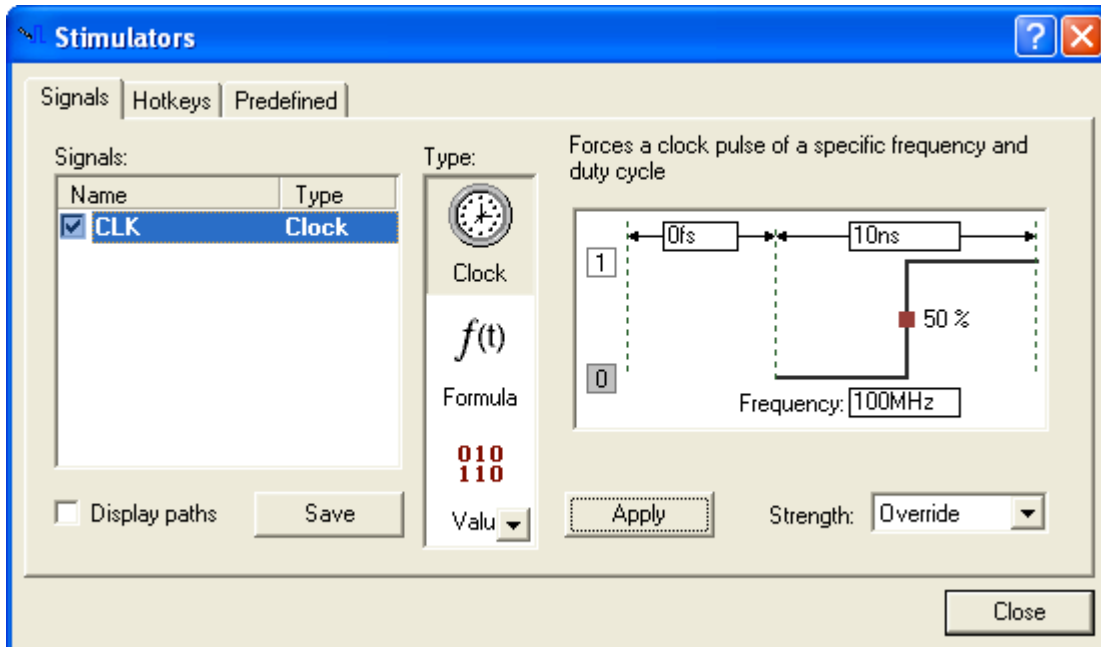

Figure 14: Stimulators window with Clock stimulator type selected.
5. Drag the floating **Stimulators** window (Figure 14) to the bottom of the screen, so that you can see both the window and all signals in the waveform.